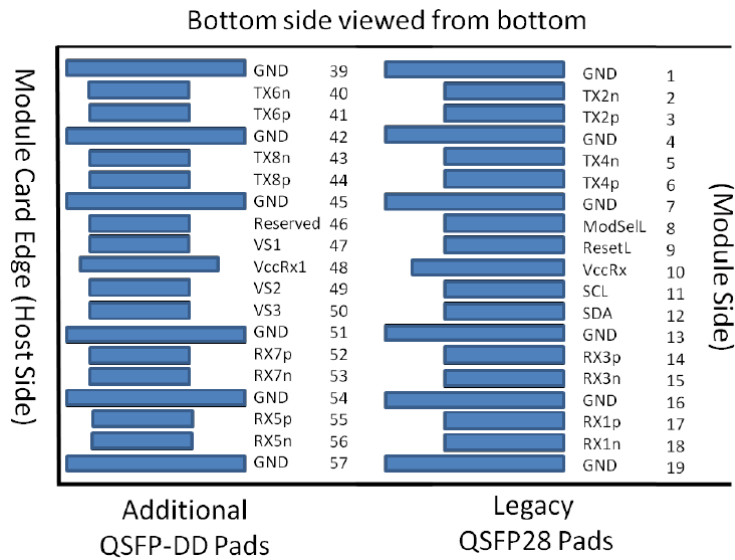

Figure 3: Module Pad Layout
4. Plug Sequence specifies the mating sequence of the host connector and module. The sequence is 1A, 2A, 3A, 1B, 2B, 3B. (see Figure 3 for pad locations) Contact sequence A will make, then break contact with additional QSFP-DD pads. Sequence 1A, 1B will then occur simultaneously, followed by 2A, 2B, followed by 3A,3B.